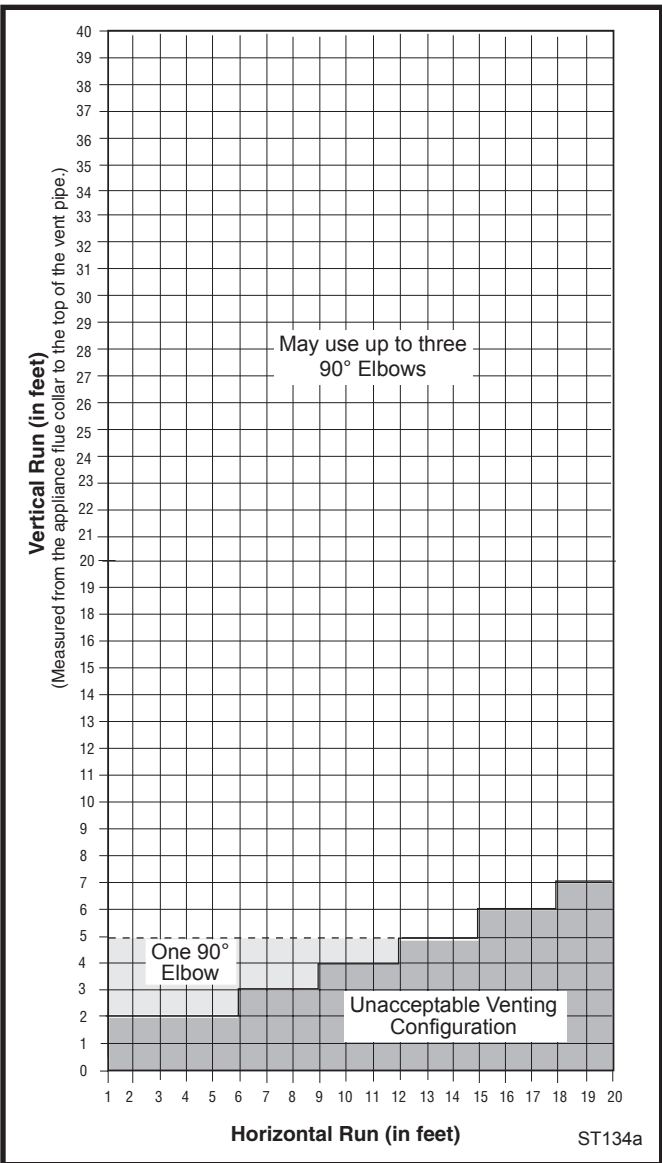

Fig. 7 Horizontal vent termination window.
The vent must rise vertically a minimum of 24" (610 mm) off the top of the unit, before the first elbow. The horizontal run may extend up to 20' (6 m) and include a vertical rise of up to 40' (12 m). (Fig. 7) Horizontal termination must also meet the criteria shown in Figures 9 through 11.
- Approved vent systems must terminate above and including the heavy line in Figure 7.